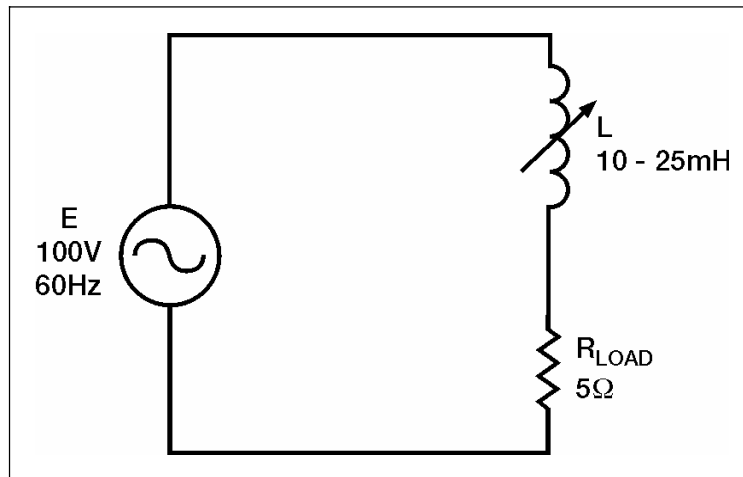

Figure 7-26. Variable Inductor in Series With a Load
7-102. Figure 7-26 shows a simple circuit with a variable inductor in series with a resistor (representing a load). The voltage source is 100 volts at 60 Hz.
As inductance (L) decreases, X_L decreases. As X_L decreases, Z decreases. As Z decreases, I increases. Finally, as I increases, true power increases. This general conclusion can be confirmed by using some actual values of inductance in the formulas along with other values from Figure 7-26.
So, a decrease in inductance of 11.3 millihenries (23 mH - 11.7 mH) causes an increase in power to the load (true power) of 625 watts (1125 W - 500 W). If it took 1 watt of power to change the inductance by 11.3 millihenries (by some electrical or mechanical means), Figure 7-26 would represent a power amplifier with a gain of 625.